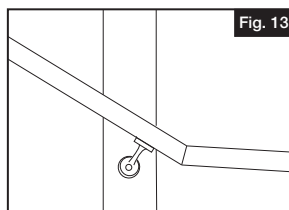

Fig. 13
1. Measure the angle of the joint and cut lineals accordingly. Dry fit both Hand Rail lineals, making sure that the miter cuts match properly (Fig. 13).